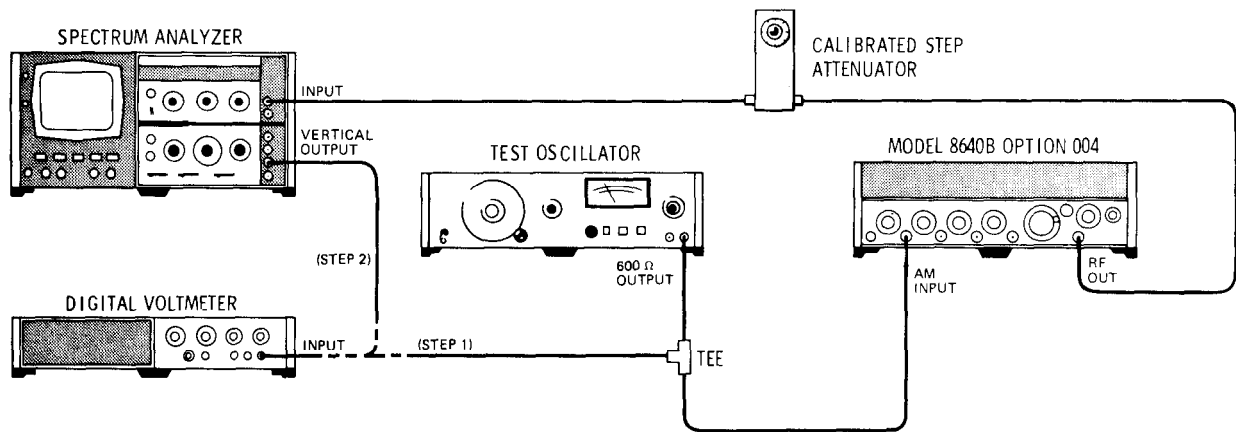

Figure 4-20. AM Sensitivity and Accuracy Test Setup
1. Connect equipment as shown in Figure 4-20 after setting Signal Generator's controls as follows: